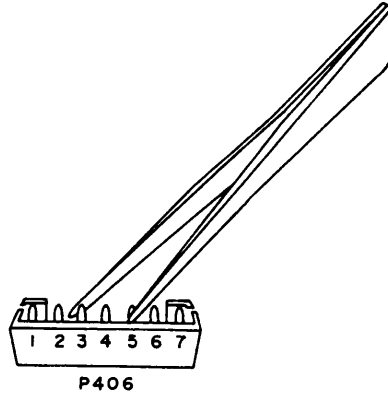

Fig. 6-1
- 3) Short pin ③ (C, SW, B) and pin ⑤ (GND) of P406 with a tweezer or jumperwire as shown in Fig. 6-1 to maintain the tape loaded mode without Ejector BLK.